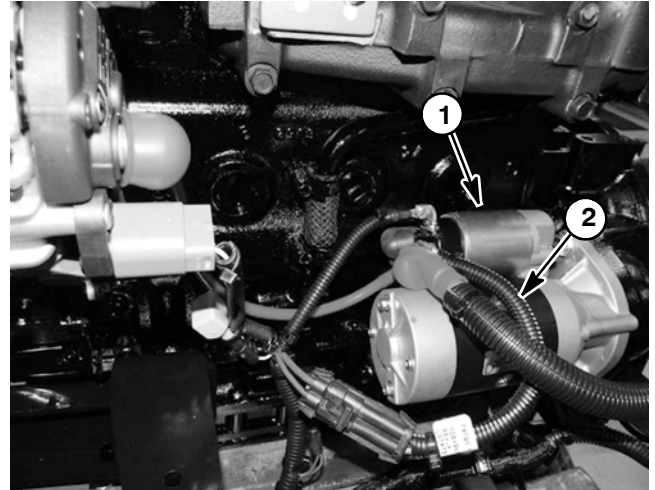

Figure 33
Your Groundsmaster uses two (2) fusible links for circuit protection. These fusible links are located in a harness that connects the starter B+ terminal to the wire harness (Fig. 33). If either of these links should fail, current to the protected circuits will cease. Refer to wire harness drawings in Chapter 10 - Foldout Drawings for additional fusible link information.